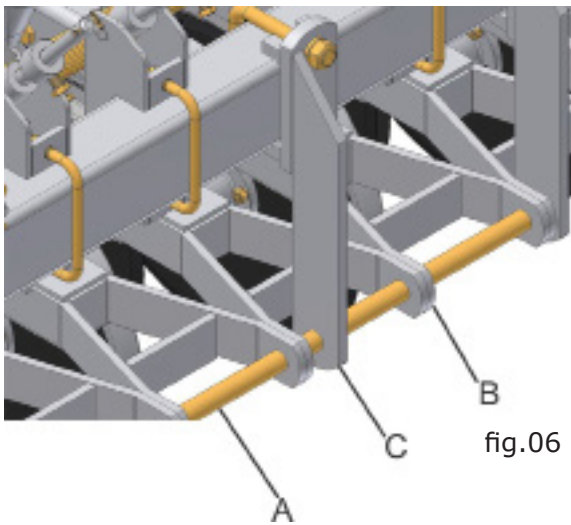
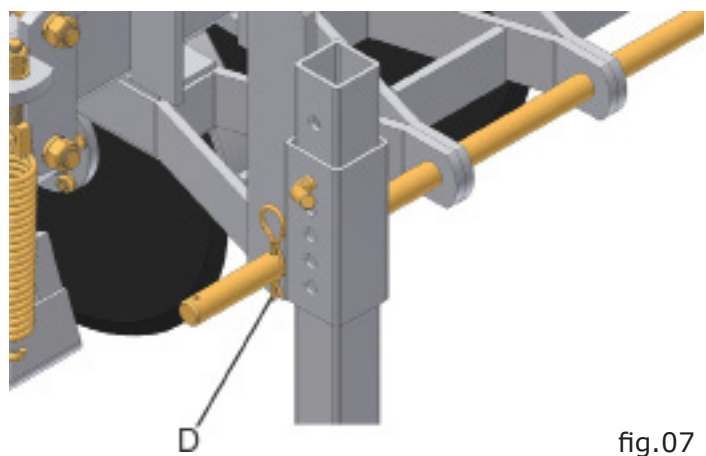
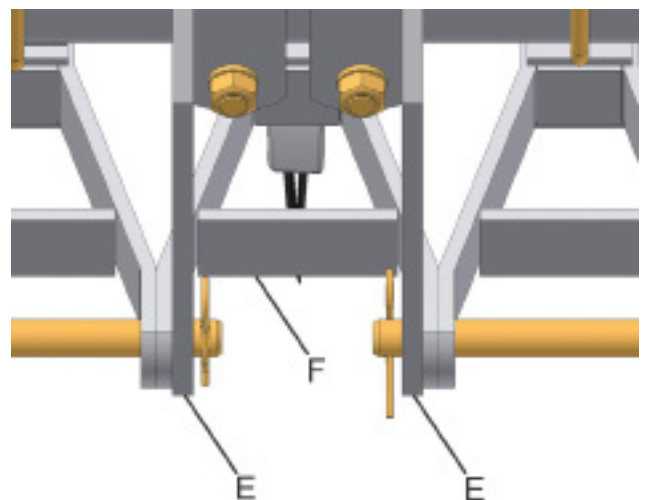

fig.06
fig.07
fig.08
- 4 - Insert the clamping axle (A) (fig.06) the lines making they are together to each other, and the centerline (B) must have a support (C) for fixing the axle. Always taking care that **the lines nearest to wheeled should be long lines**, regardless of the type or number of lines that make up the seeder.
- 5 - After assembling of the lines on the supports, lock the clamping axle (A) using the cotter pins (D) (fig. 07) on their ends.
- 1- Attach the two central metal plates (E) (fig. 08) on the center of chassis.
- 2- Put the clamping axle of the lines in (A) (fig. 06), noting the position of the intermediate support (C) (fig. 06).
- 4- Put the central line (F) (fig. 08), align the intermediate support (C) (fig. 06) in the line kit.
- 6- After assembling the planting lines on the supports, lock the clamping axle (A) (fig. 06) using the cotter pins (D) (fig. 07) on their ends.
Make sure that the centerline of the kit (F) (fig.08) is centered in the chassis, through metric measurement (measuring tape or meter).